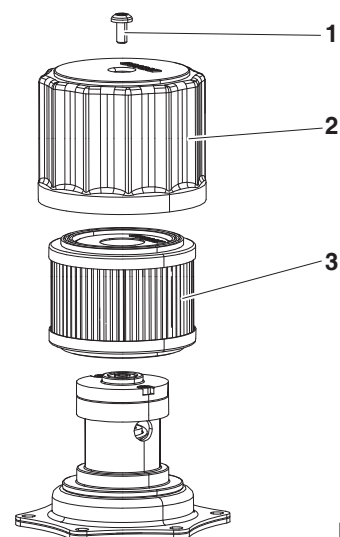

Figure 89
2. Tip breather cap up (2, Figure 89) slightly to release the internal pressure.
3. Unscrew the bolt (1, Figure 89) and take off the breather cap (2).
4. Change a filter cartridge (3, Figure 89) and assemble the breather cap by tightening the bolt.